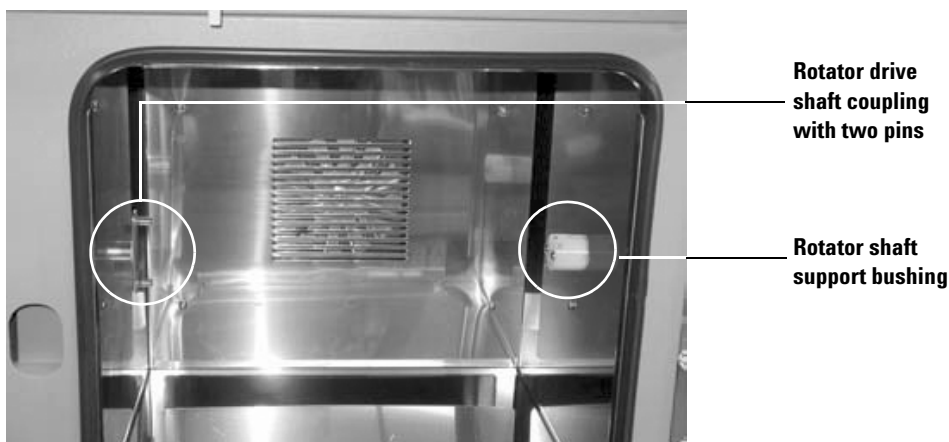

Figure 2 Rotator shaft attachment locations
- b Open the oven. Locate the rotator drive shaft coupling on the left side oven wall and the rotator shaft support bushing on the right side oven wall. See Figure 2.